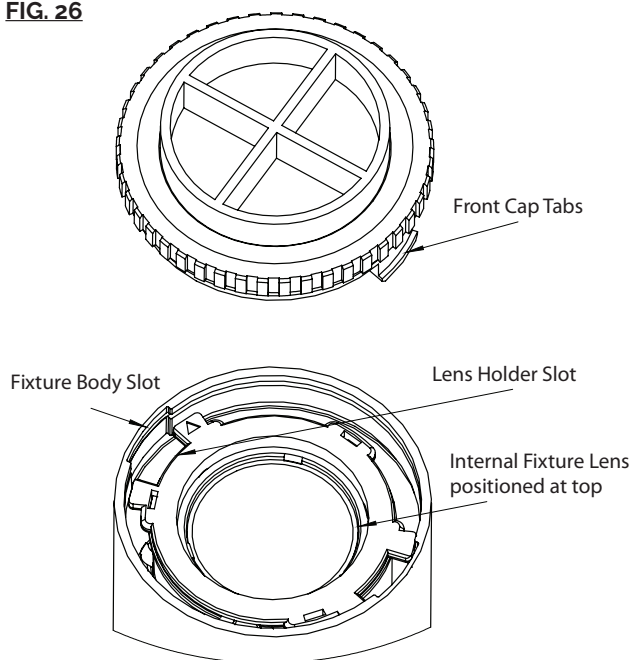

**FIG. 25**
4. Fixture accommodates one lens and one glare control accessory. (Refer to spec sheet for list of compatible accessories). Install accessories between the front cap and accessory holder. Tighten accessory holder after accessories are installed. (Fig.25)